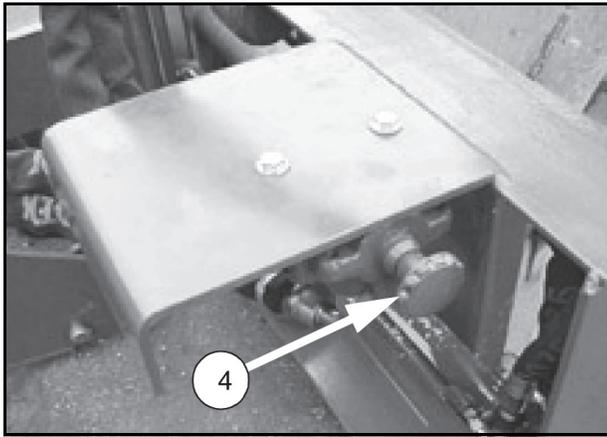

Figure 7.
3. **(MD Only)** To operate the sideshift cylinder for shifting the pavement saw from side to side pull the knob (4) on the diverter valve outward as shown in Figure 7.
8. Shift the diverter valve back to the cutting position by pushing the knob inward as shown in Figure 7.